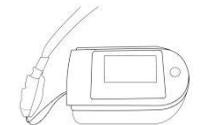

Figure 4 Mounting the hanging rope
Step 1. Put the end of the rope through the hole refer to Figure 4.